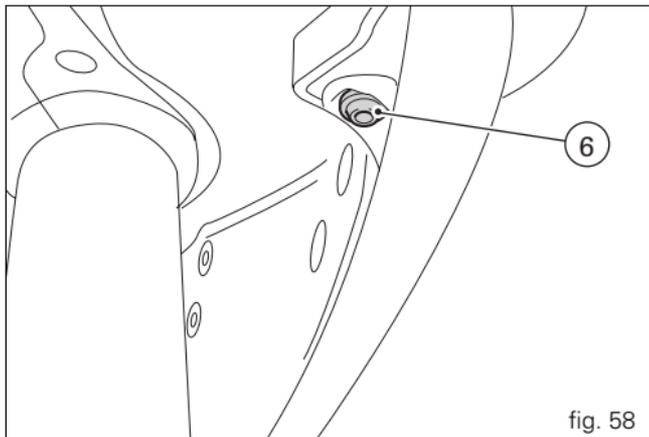

fig. 58
Remove the side fairings using the Allen key located in the underseat compartment; unscrew: the two bolts (1) securing the fairing panels to the brackets; the six bolts (2) securing the fairing panels to the headlight shell; the four bolts (3) securing the fairing panels to the frame; the two bolts (4) located under the fairing that join the right fairing panel to the left fairing panel; the two bolts (5) securing the fairing panels to the oil cooler; the two bolts (6, fig. 58) securing the front of the fairing to the headlight shell.